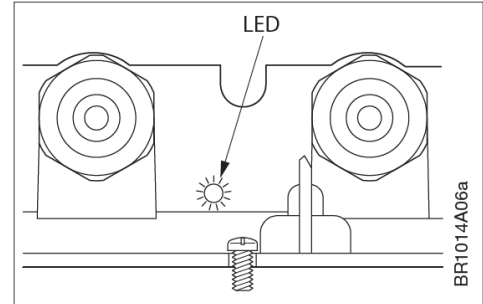

Fig. 5-4: Position of status LED
- The LED is located beside the entry for the mains cable of NI-DV (see fig. 5-4).